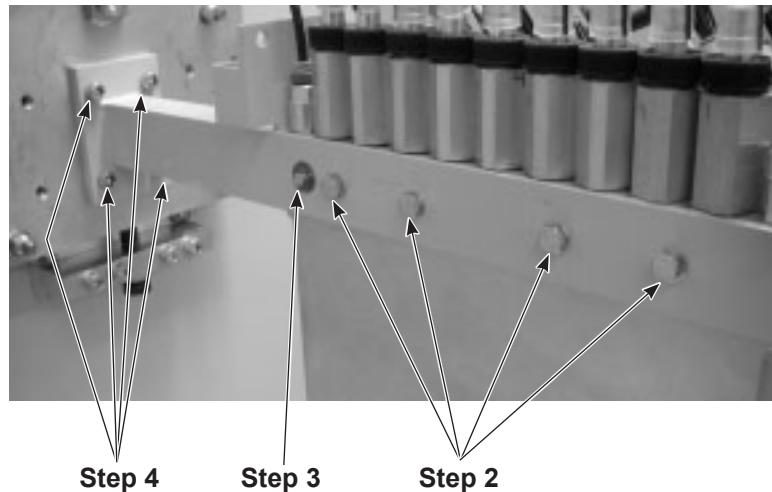

Figure 8-9 Lance Adjustment Steps 2–4
2. See Figure 8-9. Loosen the 8-mm through bolts securing the lance plates to the lance arms.